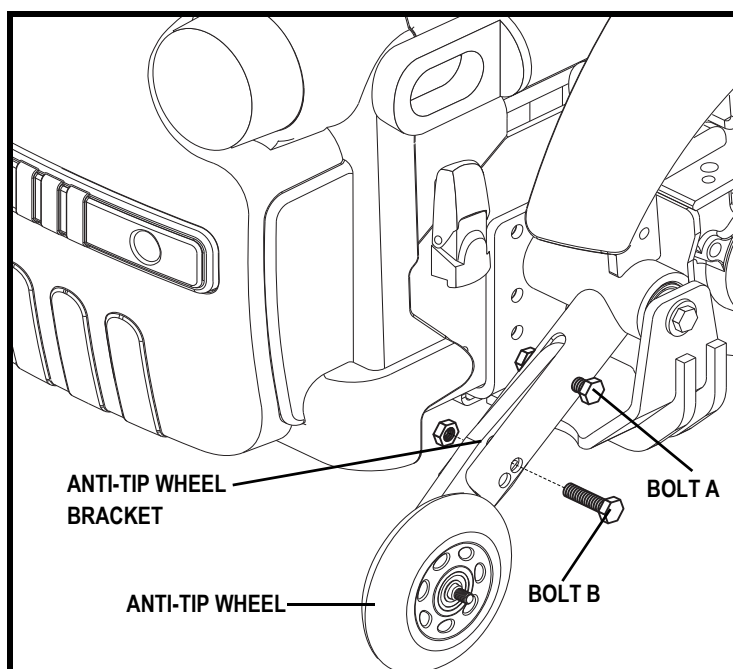

Figure 13. Anti-Tip Wheel Assembly
1. Loosen bolt A. See figure 13.
3. Raise or lower the anti-tip wheel by 1.25 cm (0.5 in.) or 2.54 cm (1 in.) increments by aligning the appropriate adjustment holes. See figure 13.